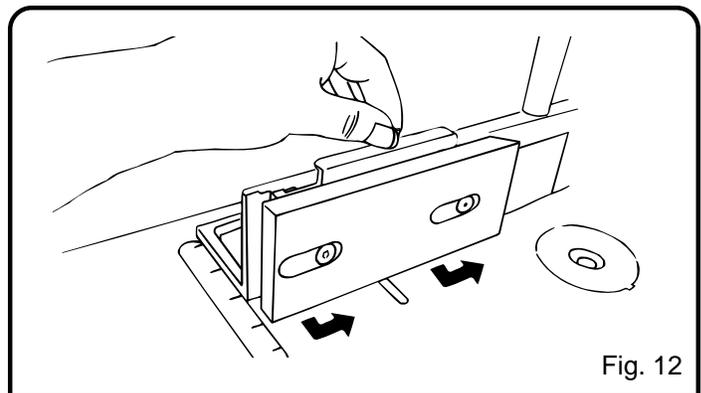

Fig. 12
■ To adjust the step risers loosen the two knob bolts on the rear of the fence and push the riser forward and toward the throat. *See Figure 12.*